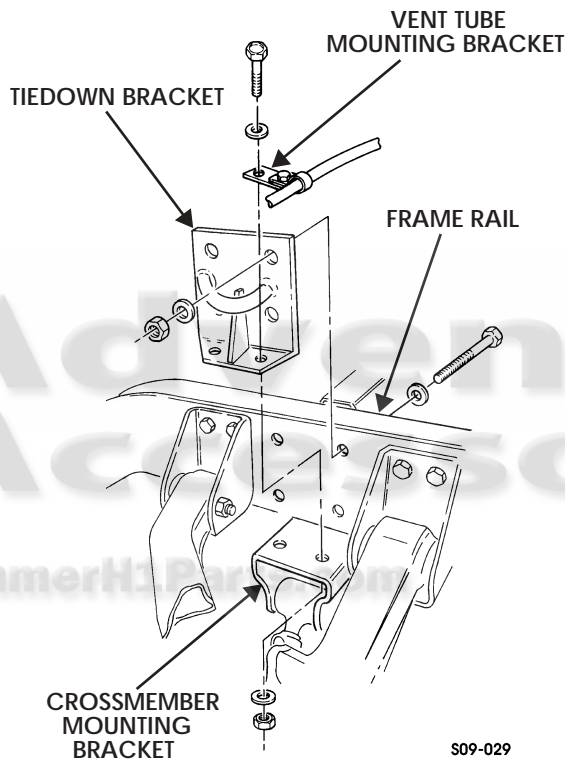

Figure 9-41: Rear-Front Tiedown Bracket
2. Remove four locknuts, washers, capscrews, washers, and tiedown bracket from frame rail. Discard locknuts (Figure 9-41).
1. Install tiedown bracket and vent tube mounting bracket on rear suspension front crossmember mounting bracket with two washers, capscrews, washers, and locknuts. Tighten locknuts to 90 lb-ft (122 N•m) (Figure 9-41).